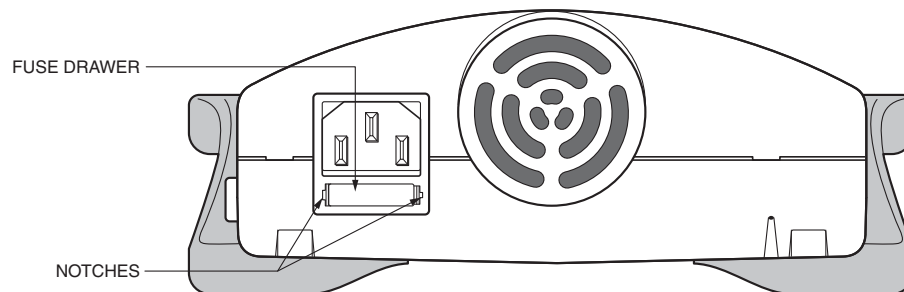

Fig. 5. Rear View Showing Fuse Drawer with Notches.
<p>Fig. 5. Power leads connected correctly.</p>	<p>Fig. 6. Power leads connected incorrectly.</p>
2. Insert a flat blade screwdriver into the notches of the power entry module's fuse holder to release it. See Figure 5.